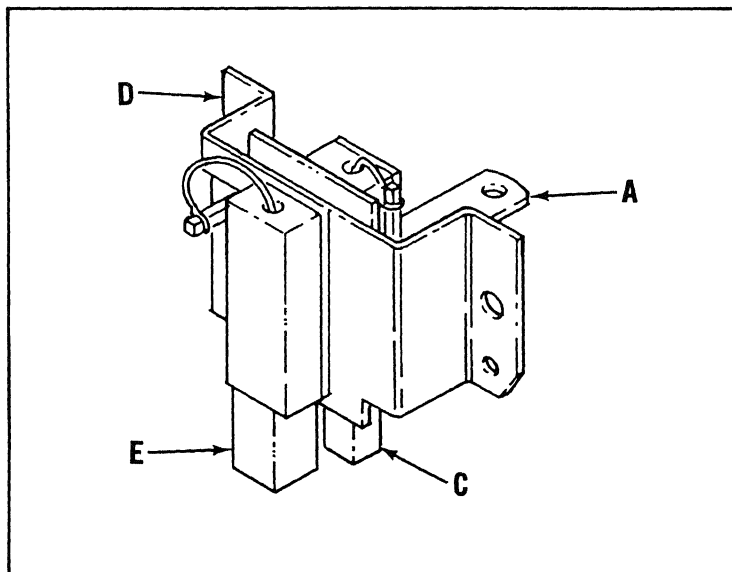

Figure 5-28.17. Alternator Brush Insulation and Continuity Test
(1) Inspect brush assembly for:
- (d) Insulation and continuity. Use 12 volt test lamp or ohmmeter. Refer to Figure 5-28.17 and perform the following: